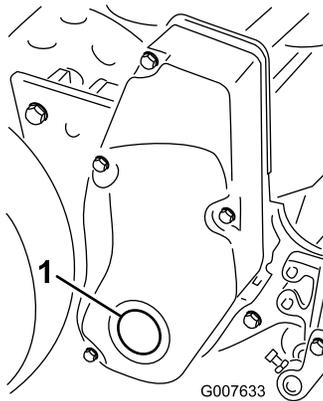

Figure 56
1. Remove the plug in the right reel drive cover (Figure 56).